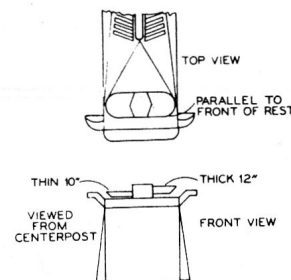

Figure 8
3. Set the push cam parallel to the front edge of the record support, make certain the thin edge of the cam is on the left side, viewed from the front or centerpost side of the support. (Figure 8.)